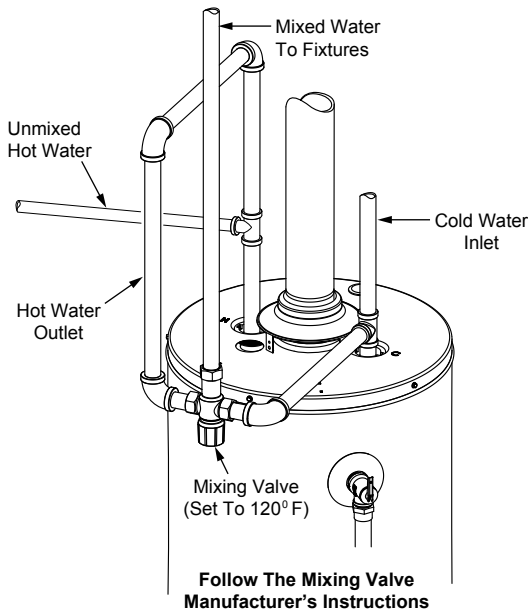

FIGURE 24.
3. The manufacturer of this water heater recommends installing a mixing valve or an anti-scald device in the domestic hot water line as shown in Figure 24. These valves reduce the point-of-use temperature of the water by mixing cold and hot water and are readily available for use.